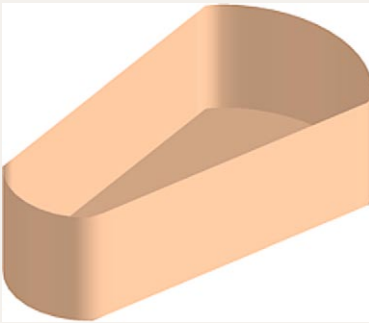
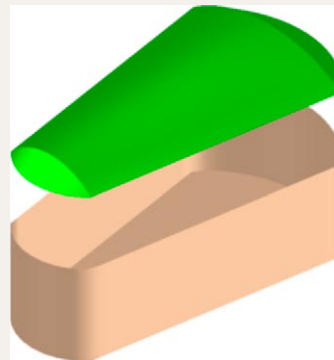

Fig. 17.45 Exercise 8 – the box
Fig. 17.46 Exercise 8 – the box and its lid
8. Construct suitable polylines to sizes of your own discretion in order to form the two surfaces to form the box shape shown in Fig. 17.45 with the aid of the **Rulesurf** tool. Add lighting and a material and render the surfaces so formed. Construct another three **Edgesurf** surfaces to form a lid for the box. Place the surface in a position above the box, add a material and render (Fig. 17.46).